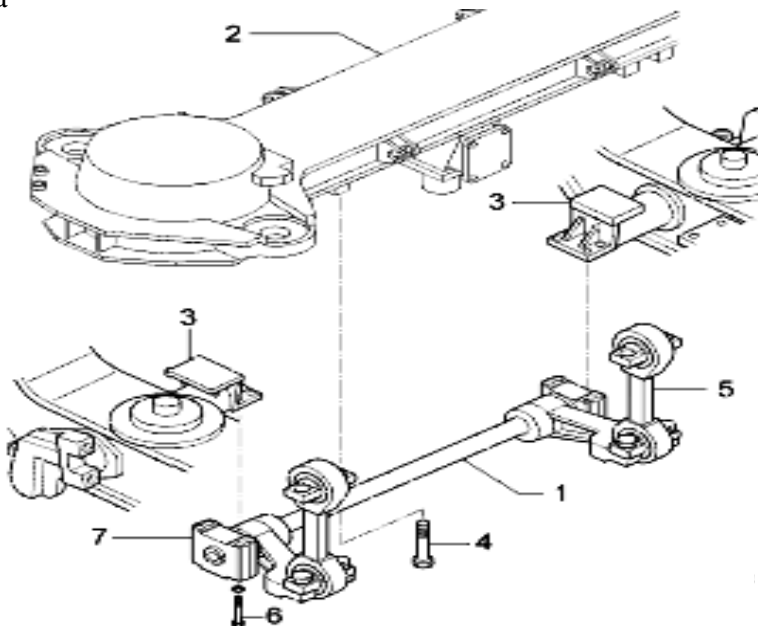

Fig. 3.6 Removal of the Anti-Roll Bar
The anti-roll bar (Fig. 3.6) must be disconnected both from the bolster beam (2) and from the frame supports (3) in order to allow removal. Extract the screws (4) which link the anti-roll bar links (5) to the bolster beam, then extract those (6) fixing the brackets (7) to the frame supports (3). It is then possible to remove the complete a